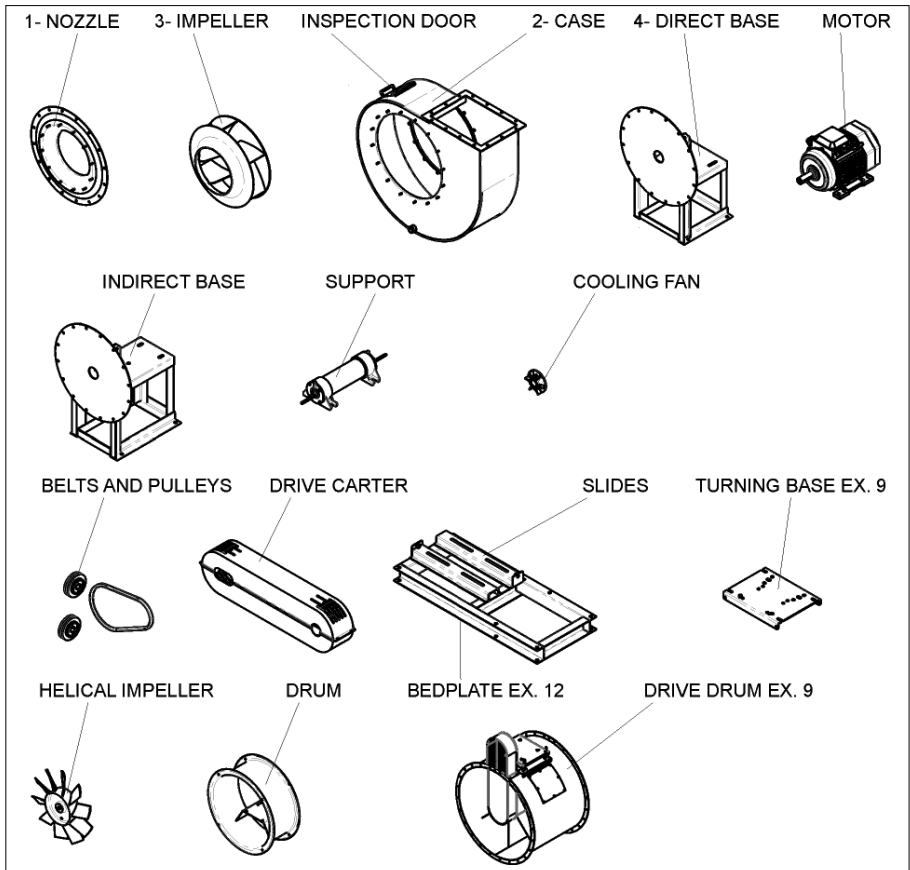

FIG. 12 (Centrifugal and axial fans)
4.3- Packaging (FIG. 12)
- 1) Nozzle (FIG. 12 - Ref. 1).
- 3) Case (with seal) (FIG. 12 - Ref. 2).
- 4) Impeller (FIG. 12 - Ref. 3).
- 6) Base (**FIG. 12 - Ref. 4**) and screw bag.